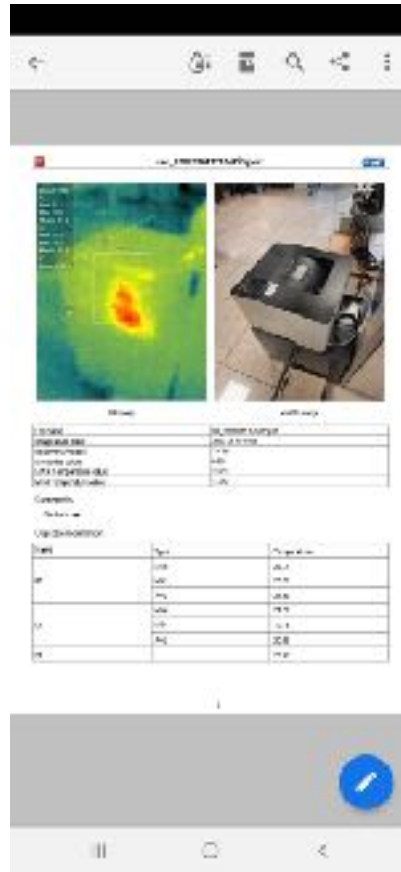

Fig. 13: Visualization of PDF report
5. The PDF report is automatically created and saved in the "**DCIM/Report\_pdf**" folder of the connected mobile device as shown in Fig. 13